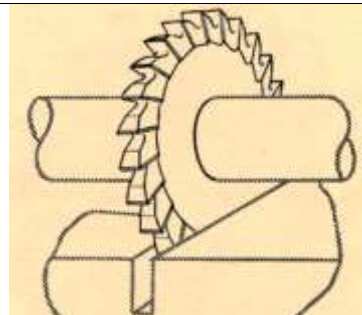

Figure 8-4. Saw teeth
**Saw Teeth:** Are either straight or helical in the smaller sizes of plain milling cutters, metal slitting saw milling cutters, and end milling cutters. The cutting edge is usually given about **5° primary clearance**. Sometimes the teeth are provided with off-set nicks which break up chips and make coarser feeds possible. (Figure 8-4).